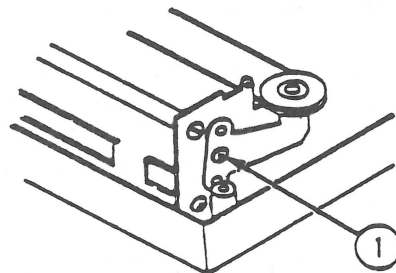

FIGURE 8
12. Tighten the tension screw until the wire is taut (see Figure 8, #1).